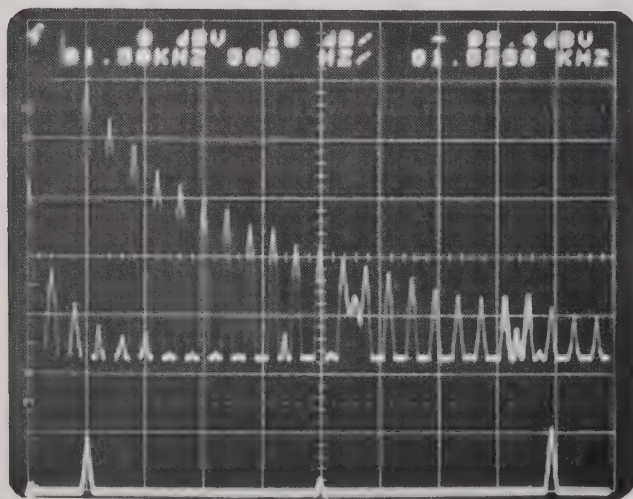

Fig. 4-12b The Use of Background Displacement; Background Displaced Upwards
- b. Jog the DISPLACEMENT toggle switch up once or twice. The two displays will separate and an arrow $\uparrow$ will be written near the top of the screen indicating vertical separation between the two traces (Fig. 4-12b).